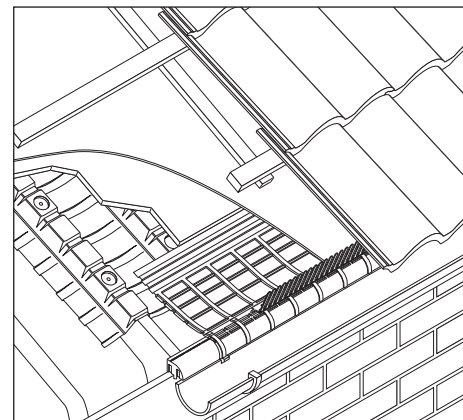

Fig. 36 – Battens and counter battens at eaves above rigid boarding and underlay
- Nail battens above counter battens at required tiling gauge (Figs. 36 and 37).